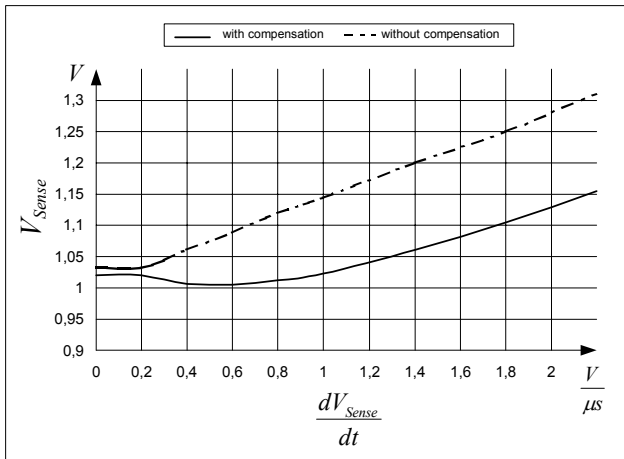

Figure 13 Overcurrent Shutdown
within a wide range. Current Limiting is now possible in a very accurate way (see Figure 13).
E.g. $I_{peak} = 0.5A$ with $R_{Sense} = 2$. Without Propagation Delay Compensation the current sense threshold is set to a static voltage level $V_{csth} = 1V$. A current ramp of $dI/dt = 0.4A/\mu s$, that means $dV_{Sense}/dt = 0.8V/\mu s$, and a propagation delay time of i.e. $t_{Propagation\ Delay} = 180ns$ leads then to an I_{peak} overshoot of 14.4%. By means of propagation delay compensation the overshoot is only about 2% (see Figure 13).